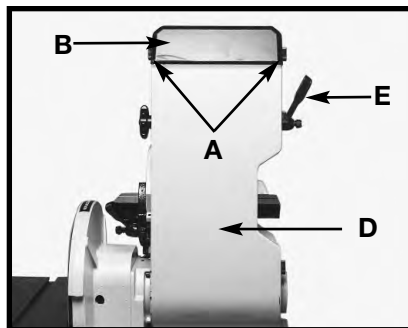
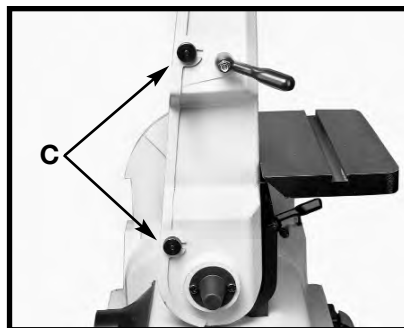
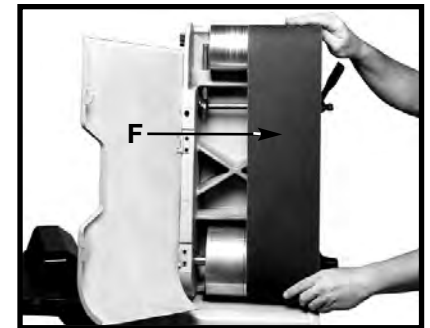

Fig. 38
Fig. 39
Fig. 40
- Loosen the two lock knobs (A) Fig. 38, and remove the top cover (B).
- Loosen the two screws (C) Fig. 39 enough to allow the back panel (D) Fig. 38 to hinge open. **NOTE:** The screw (C) cannot be removed.
- Release the belt tension by turning the hand lever (E) Fig. 38. Slide the belt (F) Fig. 40 off of both sanding drums.